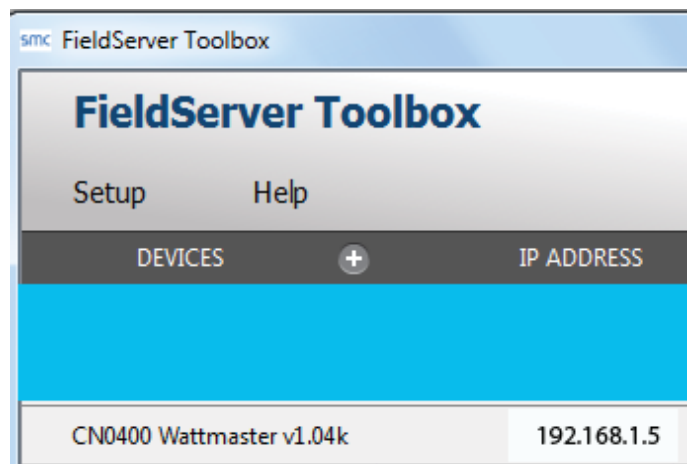

Figure 34: FieldServer Toolbox
5. Once launched, the FieldServer Toolbox will automatically discover the attached PT-Link (this operation may take a minute). If the connected device does not display, review the section "IP Address Configuration" to make certain your PC is on the default network as required to communicate with the PT-Link. See **Figure 34**.